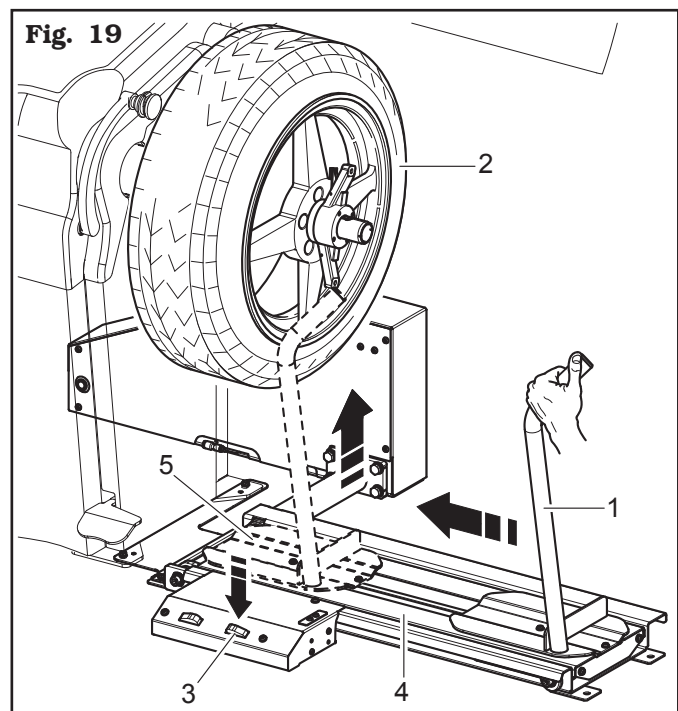

Fig. 19
- Move leftwards the wheel support (Fig. 19 ref. 1) and bring it into contact with the tyre (Fig. 19 ref. 2).
- Press the pedal for rising (Fig. 19 ref. 3) and lift the footboard (Fig. 19 ref. 4) until the wheel bearing (Fig. 19 ref. 5) comes in contact with the tyre (Fig. 19 ref. 2).
- Keep the rising pedal pressed (Fig. 19 ref. 3) for a few seconds in order to let the accessory compensate the wheel weight.